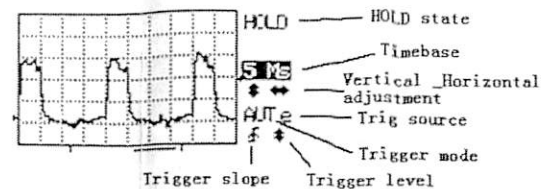

Fig. 2
- 5) Scope setting indicators - their meanings are shown in Fig. 2.